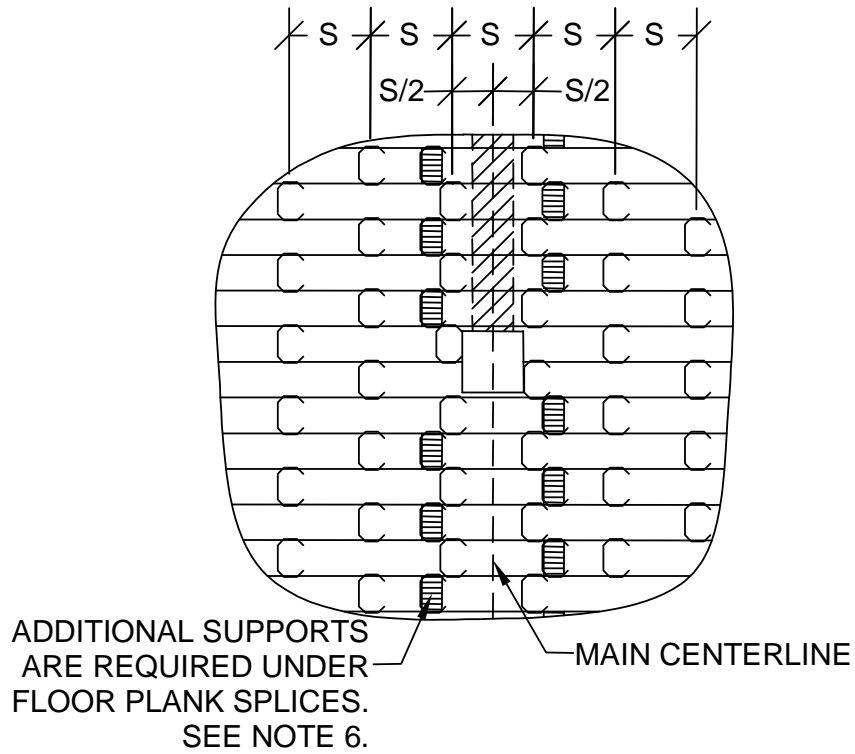

FIGURE 36.3:
3. For bin models 3608 – 3616 use normal chalkline pattern with two middle lines spaced a distance "S/2" from main centreline and all other chalklines at standard spacing "S" specified in table. See Fig. 36.3.
6. Where the clean-out auger prevents a column from being placed on the main centreline, two columns should be placed as close to each other as possible on either side of auger tube, but staggered from plank to plank as illustrated in Fig. 36.3.